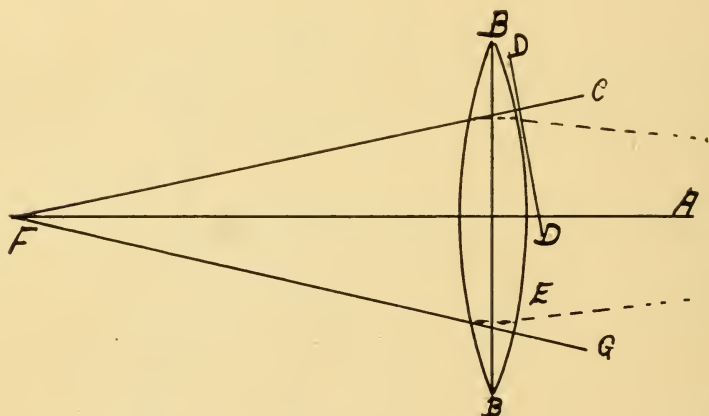

FIGURE 33
(46) Fig. 33 shows a bi-convex lens. FA represents the principal or optical axis, BB the plane of the lens and F is a point representing the center of a circle which the lens surface furthest away would form if the line representing its surface were continued; DD is a line representing the plane of the curved surface of the lens at the exact point ray FC enters; FC and FG are light rays.